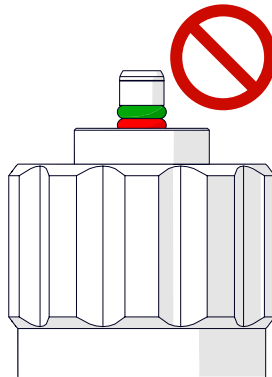

Fig. 56 - Traction is set too tight
4. If the traction is incorrectly set up, the red indicator will appear, which means the traction is too high (Fig. 56). Disengage the clamp levers and adjust the traction by rotating the traction adjustment knob as needed and check again.